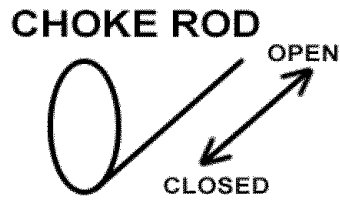

Figure 5- Choke rod positions
4. Pull the choke rod to the “closed” position (see figure 5).